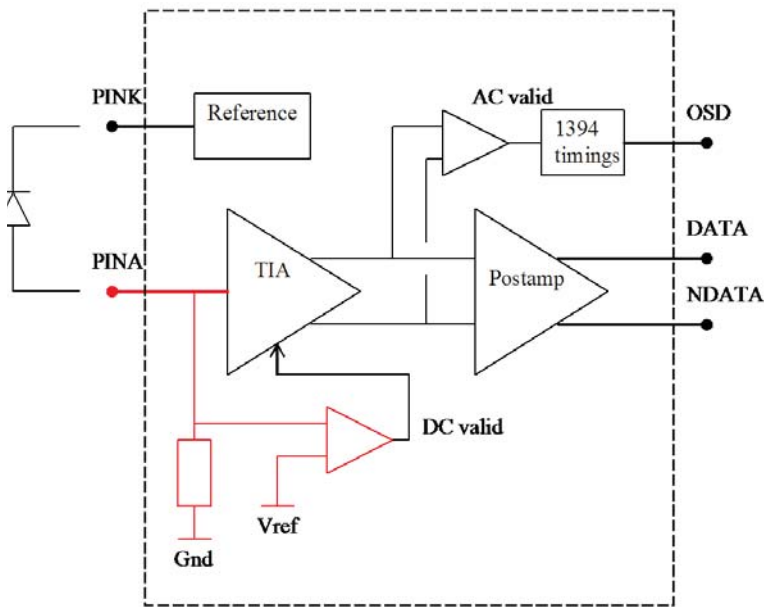

Figure 5.
The FDL300E/D FOT pair supports the IEEE 1394b PMD wake up on LAN specification (ref: TS2004024). Low power mode is triggered by the differential voltage signal swing at the input to the Tx dropping below 50 mV. In this case, the Tx switches to a sleep power state consuming a maximum of 20 μA . Ultra-low power mode is triggered by a hard-disable of the Tx, which is when the power to the Tx is switched off ($V_{cc} = 0\text{ V}$). In both low power and ultra-low power cases, the Rx responds to the Tx powering down. With the Tx powered off, the Rx signal detect (SD) drops low and remains low for more than 50 ms at which point the Rx also switches into sleep mode (consuming a maximum of 20 μA). The last power mode is referred to as power off. This occurs when the DC power (V_{cc}) to both the Tx and Rx is hard-disabled (switched off). The wake up is described by the circuit diagrams shown in Figures 5 through 7.